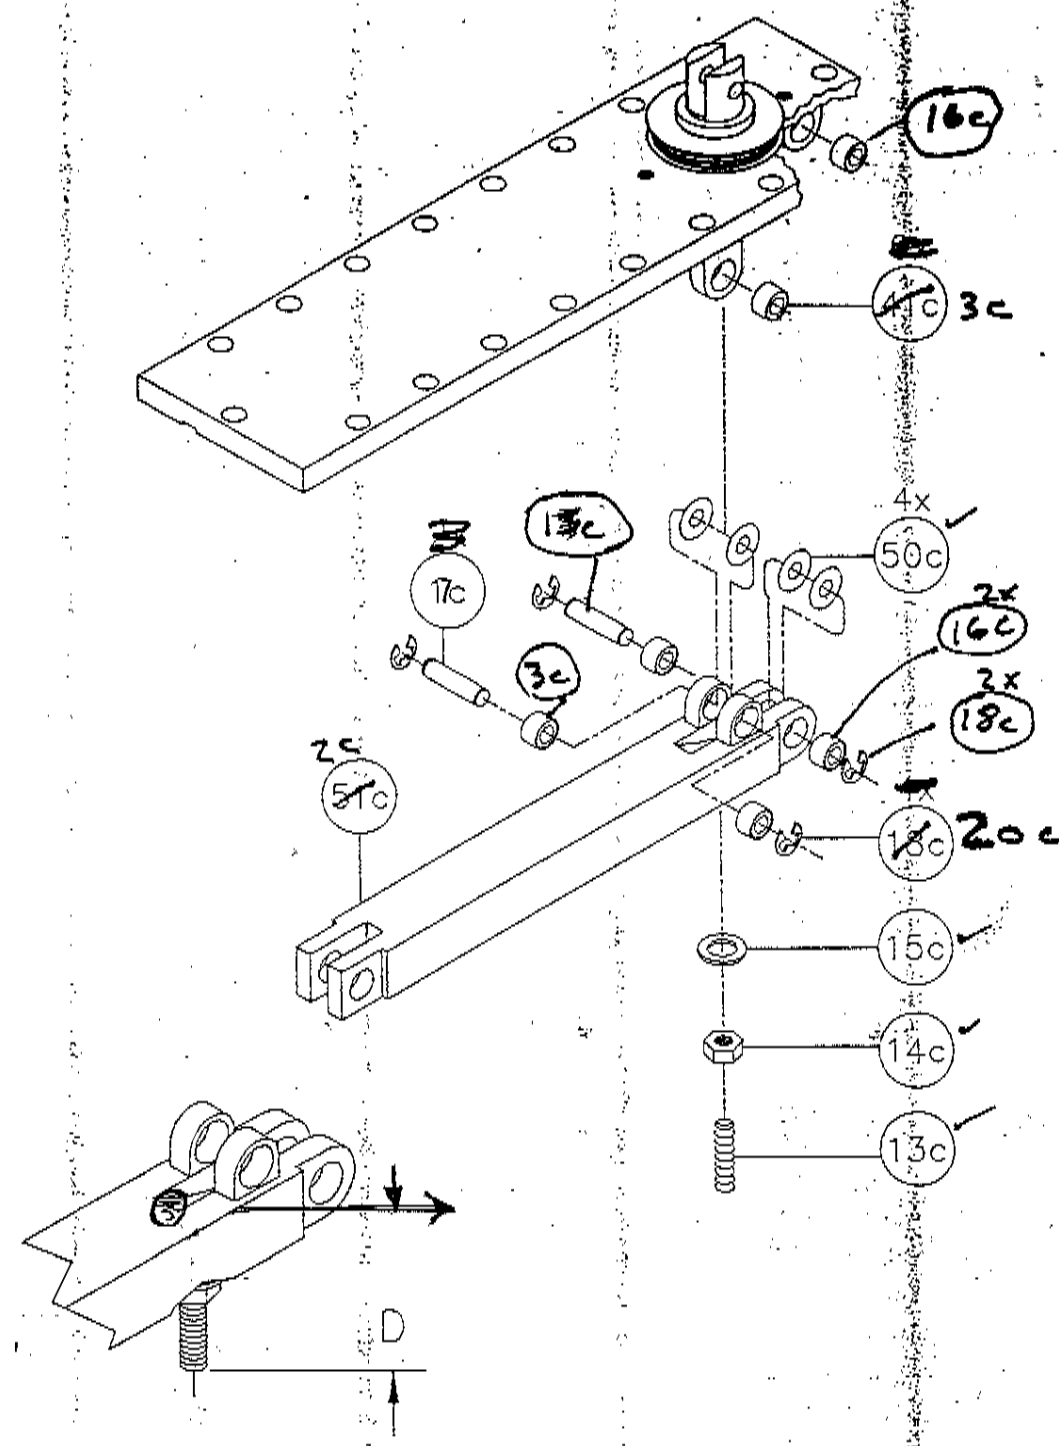

FIGURE 5
5.1. Press one bearing (16c, Figure 5) into the Bonnet pivot and one bearing (3c, Figure 5) into the bottom of the Bellows stem. Be careful to not damage the Bellows by over extending or collapsing them.
Assembly shown in Figure 5.
6.3.1. Begin adjustment of the over center stop by setting the dimension "D" in Figure 5 to the distance listed in chart 2 according to the valve size. Further adjustment may be required after the valve is assembled.
If the linkage does not lock, there may be too much compression. Either the T-Bolt (9c, Figure 6) needs to be shortened or the Upper Linkage stop screw (13c, Figure 5) is too long.
To adjust the Stop Screw, loosen the jam nut (14c, Figure 5) and turn the screw clockwise to shorten or counter-clockwise to lengthen.